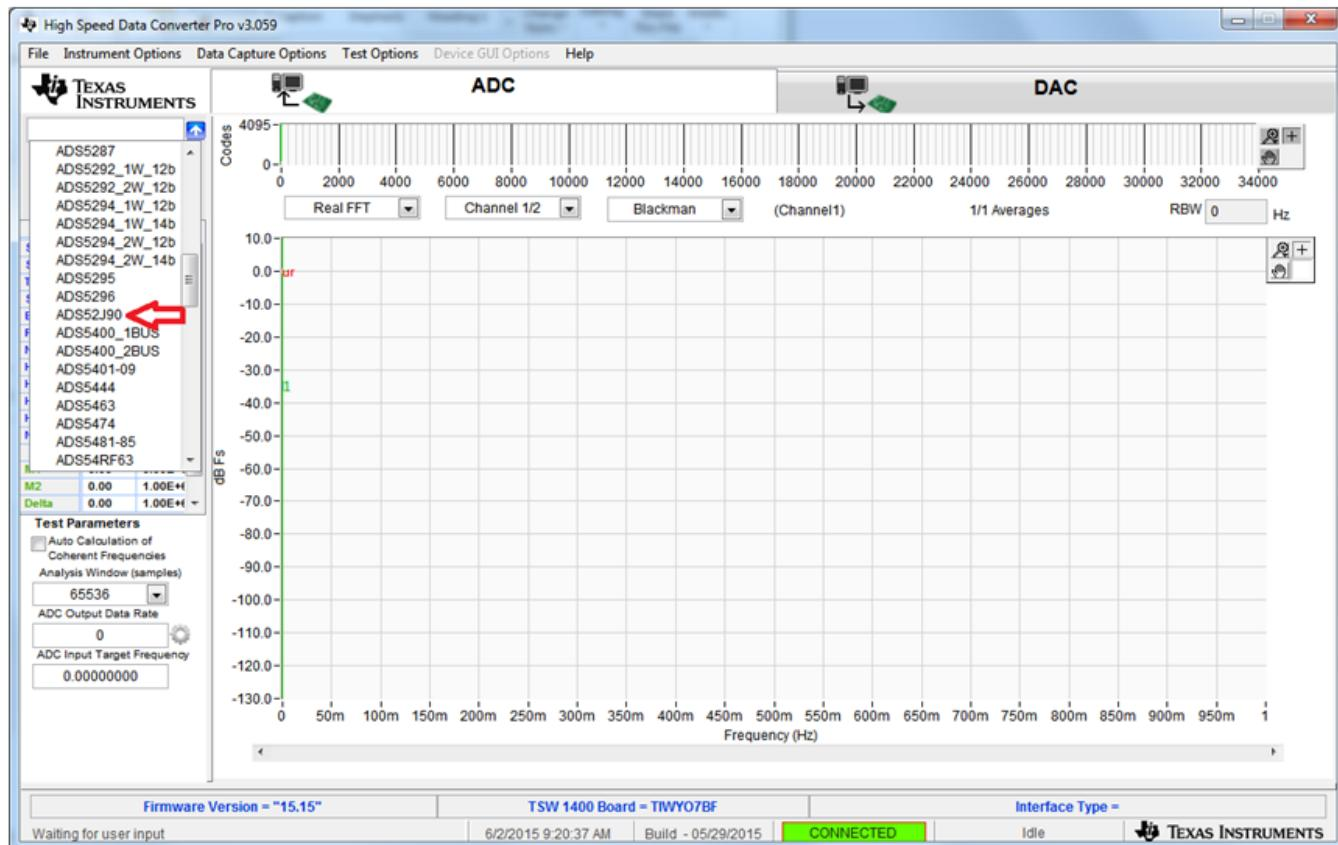

Figure 11. TSW1400 GUI Setup (d)
2. Select a device firmware to load in the FPGA by clicking on the blue arrow in the upper left corner of the HSDCpro GUI. Scroll down and select *ADS52J90* as shown in Figure 11.